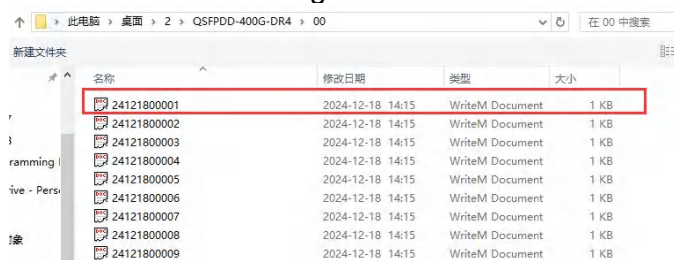

Figure 71
4.2 Click "Batch BinFile" to import the first code to be written (Figure 71)